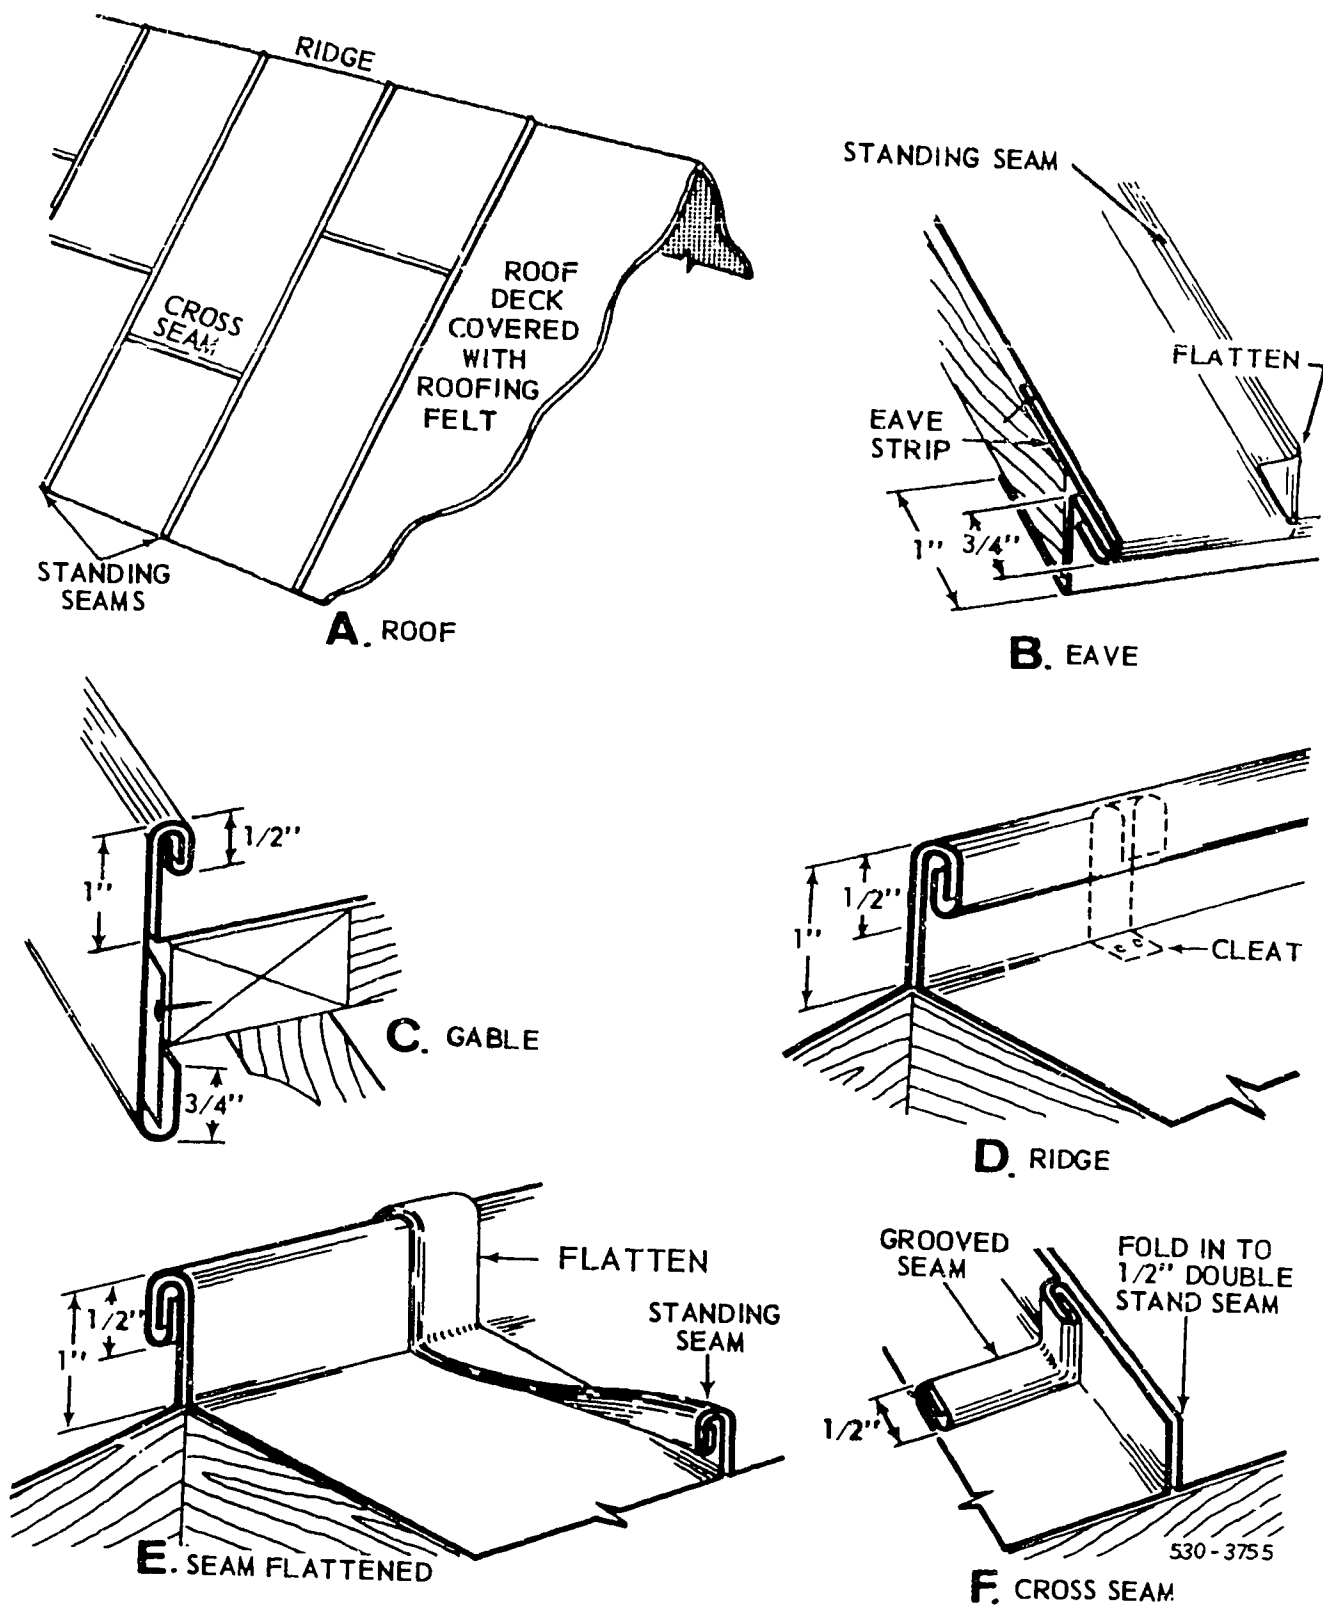

Figure 3-14. Standing seams used with metal roofing.
*Installing a roof with standing seams.* Procedures for installing a roof with standing seams are shown in figure 3-14. View A shows that the deck is covered with roofing felt, and some of the sheets are installed with double lock standing seams like the seams shown back in figure 3-3.
In view B of figure 3-14, you can see how the eave flashing is installed to prevent leaks. The continuous eave strip in this example is formed into a Z-shape and nailed to the roof deck; it extends over the eave  $\frac{3}{4}$  inch. Place the metal roofing on the deck so that a  $\frac{3}{4}$ -inch pocket can be formed over the  $\frac{3}{4}$  inch of the eave strip that extends past the eave edge. Turn the ends of the standing seams  $180^\circ$  and flatten them, to prevent leaks.
Flashing for the gable edge is shown in view C of figure 3-14. Cut a strip as long as the entire length of
Cap the ridge (view D of fig. 3-14) by nailing cleats to the roof deck and forming them into the standing double seam. Where the standing seam which runs up the slope of the roof joins the standing seam on the ridge, flatten the seam on the slope and form it into the ridge seam, in view E of fig. 3-4).
Join the cross seams with  $\frac{1}{2}$ -inch grooved seams, as shown in view F of figure 3-14, and seal the cross seams with solder. Be sure to seal the cross seam where it is formed into the double fold of the standing seam.